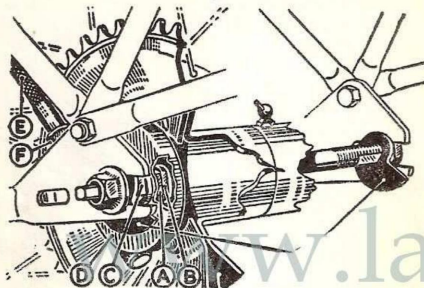

Fig. 13.
3. *Speedometer locknut 'C',* Fig. 13 when fitted (3-speed model only). This must be released so that the speedometer cable can take up a new position as the wheel is drawn back.
4. *Speedometer drive* (on 3-speed models only). The cable must be disconnected at the point where it enters the speedometer gearbox. It can be unscrewed at the point *F* (see Fig. 13).
The method of adjustment is the same for the rear wheel as for the front wheel. After the wheel has been removed from the frame, the nut *C* (Fig. 13) should be unscrewed and the speedometer